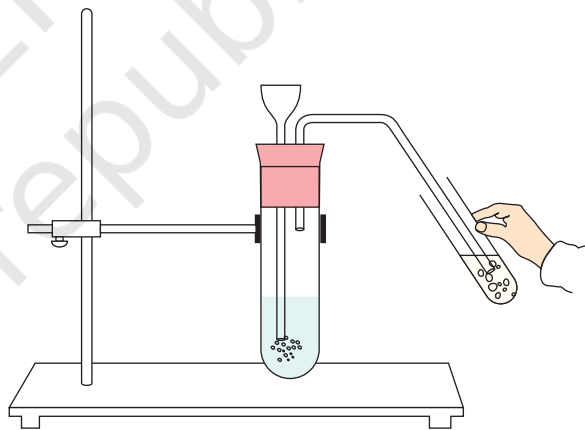

Fig. 9.1 : Carbon dioxide gas formed by the reaction of dil./hydrochloric acid on washing soda or baking soda is being passed through lime water
5. For performing lime water test, take the solution of test tube A in a boiling tube and set up the apparatus (delivery tube, thistle funnel etc.) as shown in Fig. 9.1.